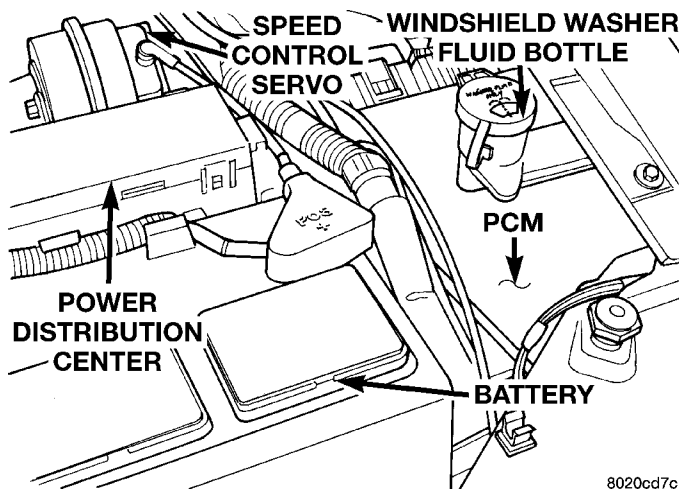

Fig. 31 Battery, PCM, and PDC
(1) Inspect the battery connections. Clean corroded terminals (Fig. 31).
(2) Check the 2 PCM 40-way connector for stretched wires on pushed out terminals (Fig. 31).
(24) Inspect the connections to the speed control servo, if equipped (Fig. 31). Refer to Group 8H, Vehicle Speed Control.